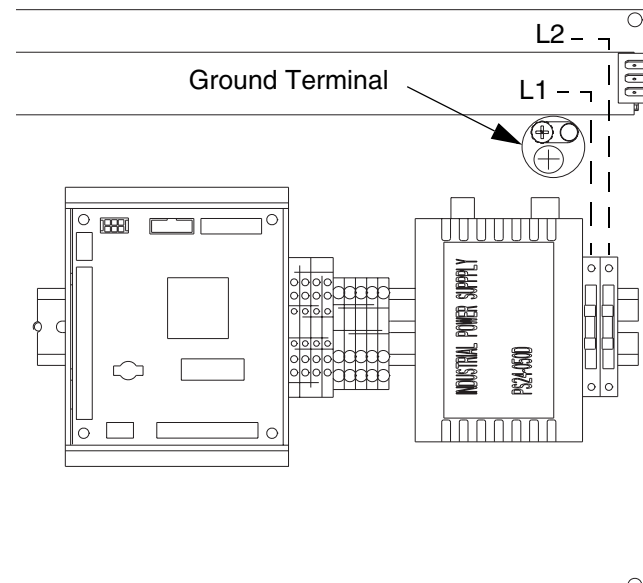

FIG. 7
Connect a ground wire from the ground point in the PrecisionFlo LT control enclosure to a true earth ground. See FIG. 7. A 10 AWG, 25 ft. (7.6 m) long ground wire with clamp, Part No. 222011, is supplied.
2. Using the appropriate gauge wire, connect electrical power L1 and L2 to the top of the fuse terminal blocks, see FIG. 7, page 18.